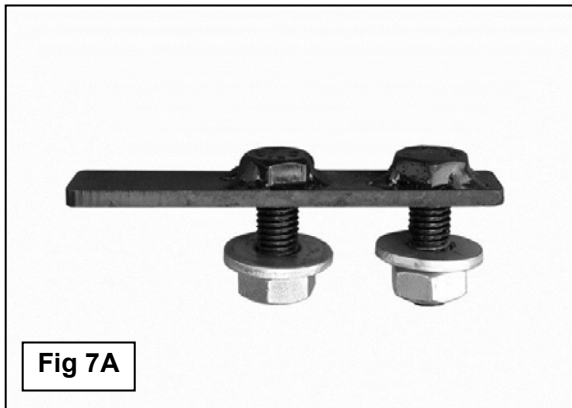

Fig 7A
- d. Select (1) 12mm Double Bolt Plate, (Figure 7A). Insert the Bolt Plate into the end of the frame channel, through the (2) holes in the side of the frame and out through the Bracket. Secure the Bolt Plate to the Bracket with (2) 12mm Flat Washers, (2) 12mm Lock Washers and (2) 12mm Hex Nuts, (Figure 7B). Snug but do not fully tighten hardware at this time. Repeat to install the 12mm x 35mm Single Bolt Plate, (Figure 8A), in the remaining hole in the other side of the frame channel and Bracket, (Figures 8B & 8C).